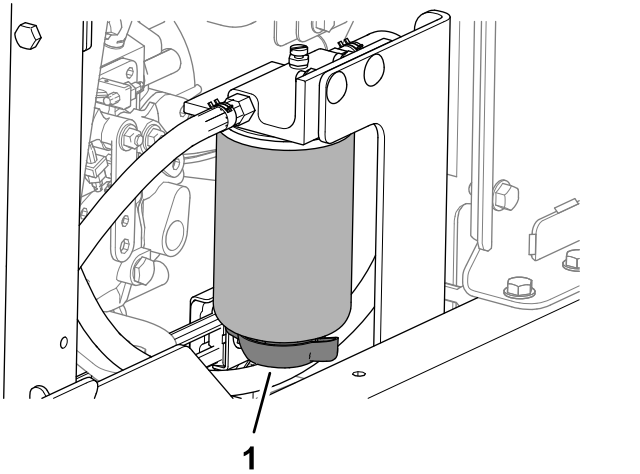

Figure 115
3. Align a drain pan under the drain valve of the fuel-water separator (Figure 115).